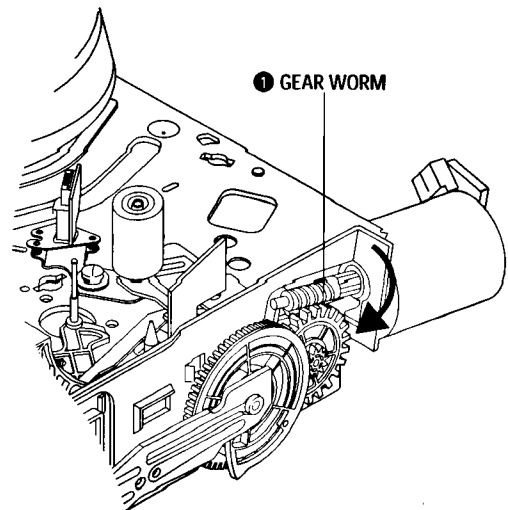

Fig. 1-33
- 3) Rotate Gear Worm ❶ clockwise using screw driver again up to the state of eject mode and then pick out the tape. (Refer to Fig.1-33)